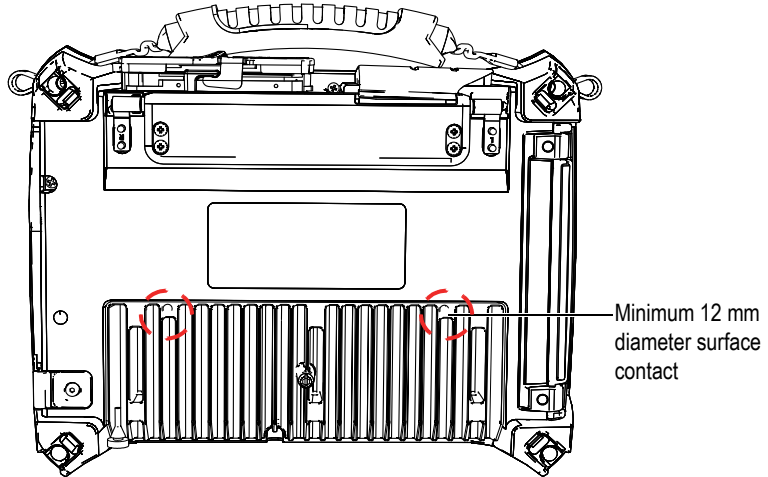

Figure 2-9 Surface contact requirements
- Make sure that there is at least a 12 mm diameter surface contact area (see Figure 2-9 on page 39) between the OmniScan SX and the supporting surface.